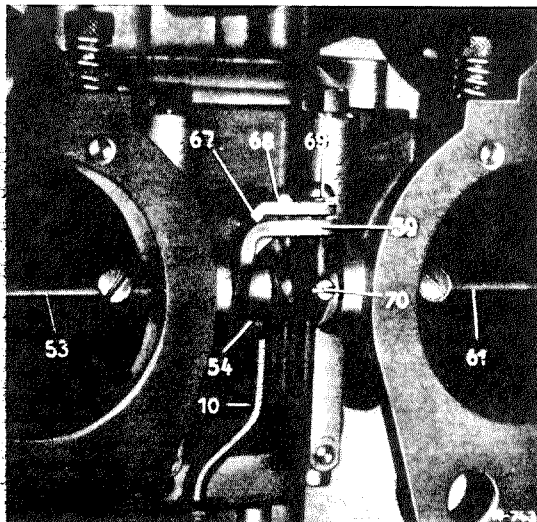

Fig. 07-0/34
When the accelerator pedal is released, the so-called automatic return mechanism of stage 2 causes the throttle valve of stage 2 to be closed by the throttle valve shaft of stage 1. The automatic return mechanism consists of the relay lever (59) on the throttle valve shaft (53) of stage 1, the set screw (69), the clamping strap (67) of the clamping screw (68) and the abutment screw (70) screwed into the throttle valve shaft (61) of stage 2 (Fig. 07-0/34).